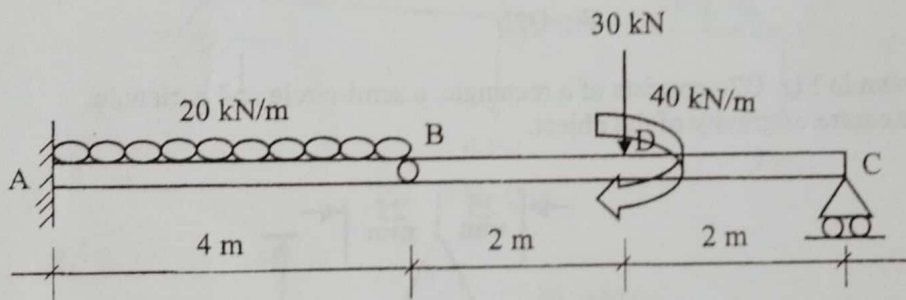

Fig. Q1d
- (d) For the beam shown in **Fig. Q1d**, determine the support reactions and draw the shear force and bending moment diagrams, indicating the positions of contraflexure and the maximum bending moment.